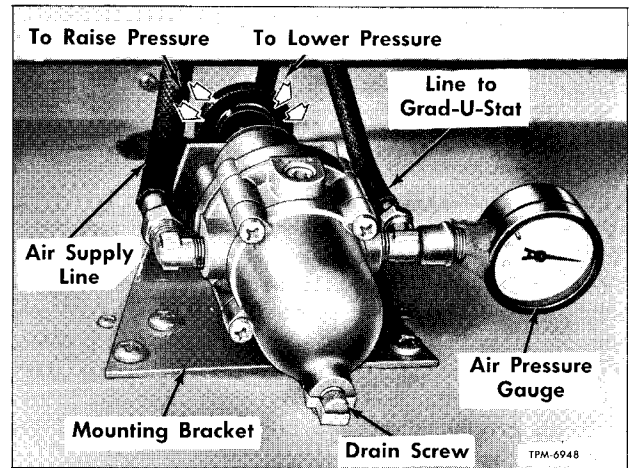
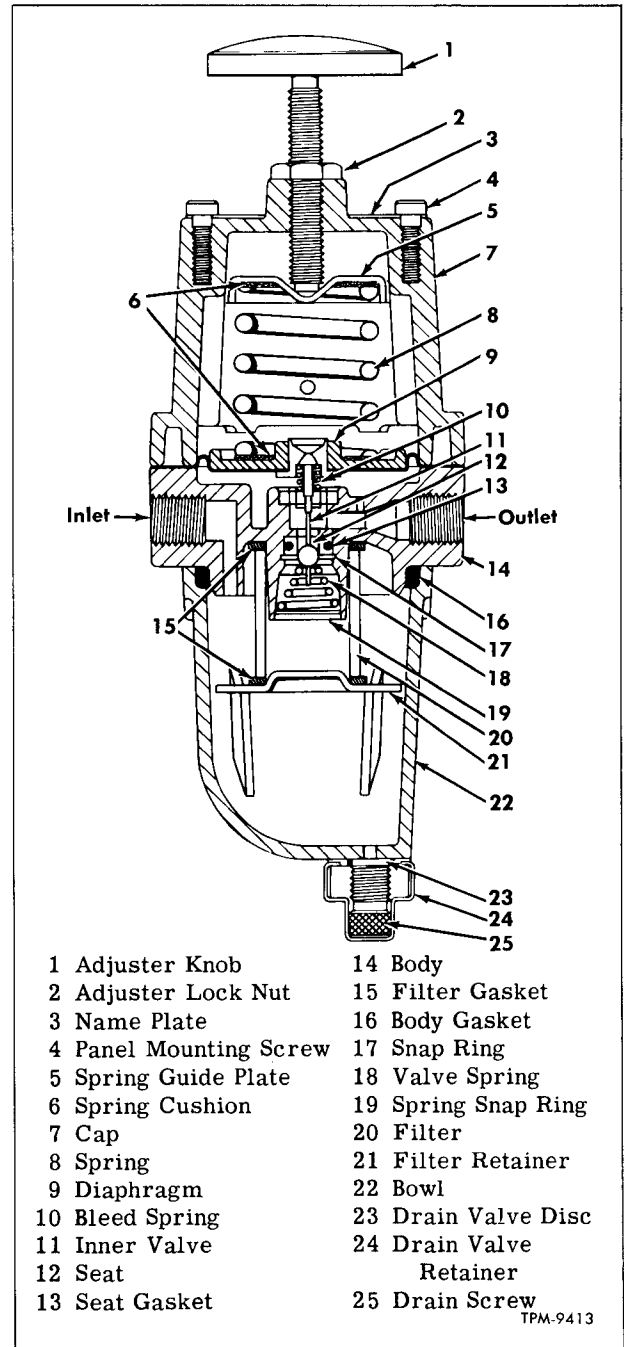

Figure 19—Air Pressure Regulator Valve Installed
Figure 21—Air Pressure Regulator Valve Assembly
1. Shut off air supply to Grad-U-Stat at pressure regulator valve located underneath coach at right of blower motors (fig. 19). Turn adjusting knob completely counterclockwise to shut off air.
ulator valve (fig. 19) by turning regulator screw completely counterclockwise.
Air pressure regulator valve (fig. 21) is mounted on bulkhead at rear of underfloor heating and cooling compartment (fig. 19). Valve is accessible from underneath coach at right side. Valve serves two purposes, to strain the air of dirt and moisture and to regulate air pressure to Grad-U-Stat. As the Grad-U-Stat uses the compressed air,
Should there be a constant bleeding of air through vent hole in the regulator cap (7, fig. 21), the inner valve assembly should be checked. Foreign matter may be lodged in valve seat or the valve may be worn.
NOTE: Key numbers in text refer to figure 21.